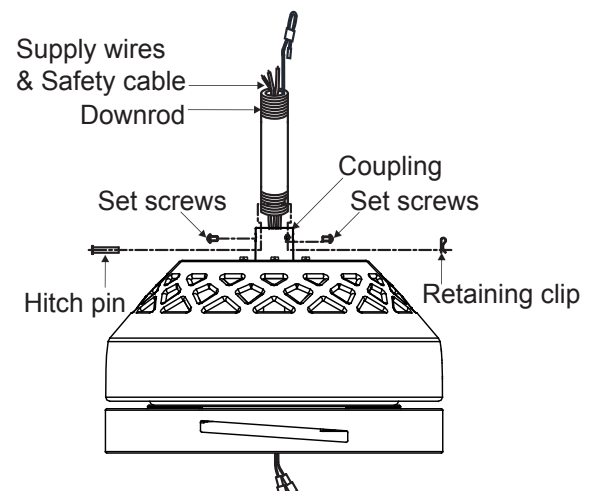

Fig. 8
Step 6. Loosen the two setscrews and remove the hitch pin and retaining clip from the coupling on top of the motor assembly. (Fig. 8)
Step 7. Carefully route the electrical supply wires and safety cable exiting the top of the fan motor assembly through the downrod. Thread the downrod into the coupling until the hitch pin holes are aligned. (Fig. 8)
Next, replace the hitch pin and retaining clip. Tighten both setscrews. (Fig. 8)